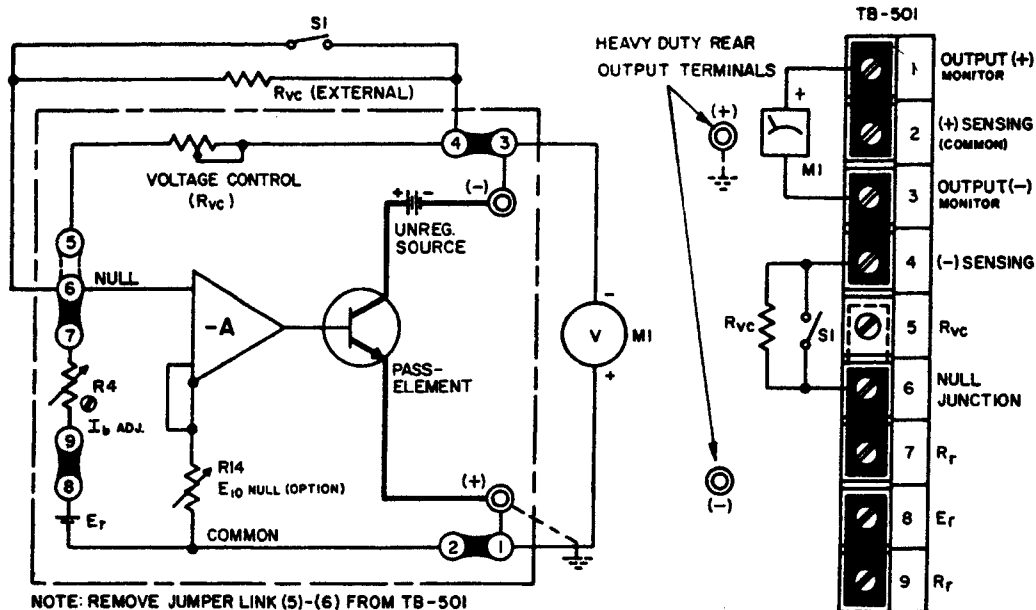

FIG. 3-4 CONNECTIONS FOR PRECISION PROGRAMMING RATIO ADJUSTMENT
3-16 **PROCEDURE. PRECISION PROGRAMMING RATIO ADJUSTMENT** (Refer to FIG. 3-4)
- Connect calibration set-up as shown in FIG. 3-4 and connect the power supply to the AC power line.